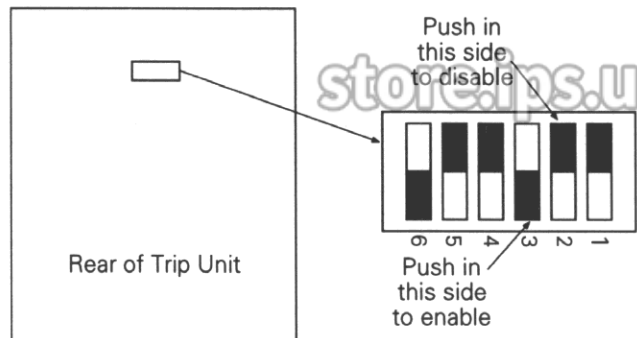

Figure 5. Accessory switch on rear of Trip Unit, showing factory settings (solid part indicates that switch is pushed in on that side).
This section applies only if Shunt Trip or Undervoltage Release accessories are installed in the breaker. The Bell Alarm-Alarm Only accessory can be configured to activate if a Shunt Trip or Undervoltage Release trip occurs. The configuration can be changed by removing the Trip Unit from the breaker, setting the DIP switches on the rear of the Trip Unit, and reinstalling the Trip Unit. Figure 5 illustrates the Trip Unit rear DIP switches. Table 2 lists the switch functions and the factory settings for each.
4. Refer to Figure 5 and Table 2 to determine the switches to be changed.